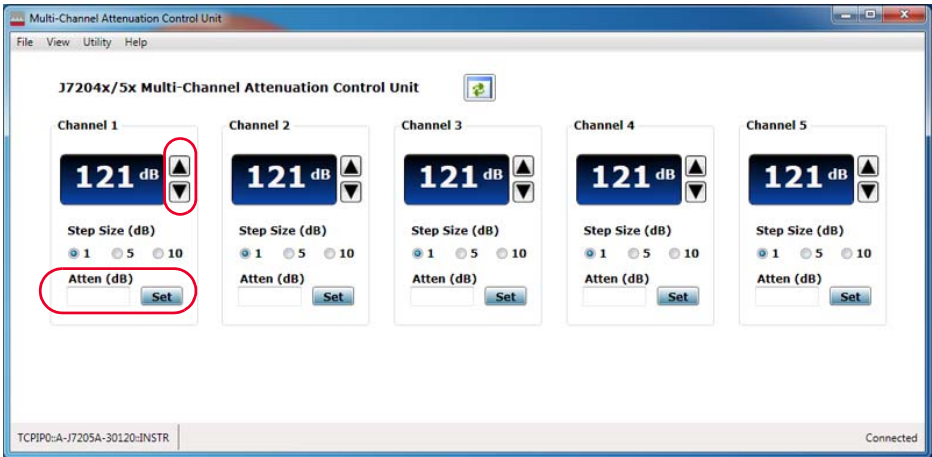

Figure 4-2 Setting the attenuation value
- 7 To verify that the J7204/5/A/B is working properly, change the attenuation value by entering the value or clicking the up/down button to increase or decrease the value, as shown in Figure 4-2 on page 42. You will hear a 'click' sound from the J7204/5/A/B when changing the attenuation value.